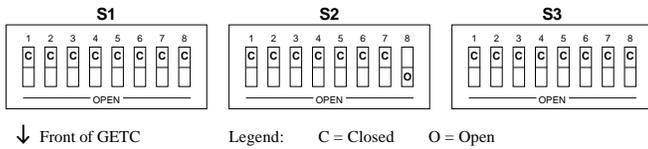

Figure 16 - Test Mode - Repeat
- The Transmit (TX) Pot adjusts the limit of the level of deviation for all audio into the transmitter except Low Speed Data. Leave the DIP switches set for low speed data. Using a balanced 600 ohm source, apply a 1004 Hz tone at 0 dBm to the Line Input of the station under test at the Punchblock.
**7.5.3.3 Repeater Gain (RG):**
- Configure the DIP switches as shown in Figure 16. Reset the GETC (S4).